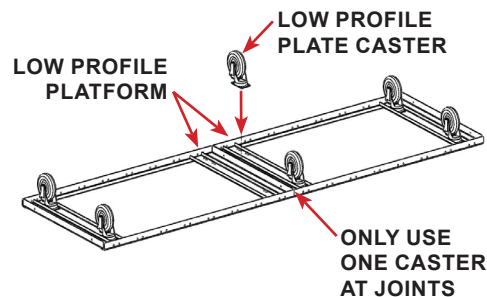

FIGURE 2.14 - Cage Bank Platform
STEP 2: For multiple platform assemblies (attached in series), install a plate caster at each of the four end corners. See FIGURE 2.14
STEP 3: Install one plate caster in the front and back where the platforms are joined together. There are two mounting plates where the platforms join, only one caster at the front and back is required at the platform joints. See FIGURE 2.14